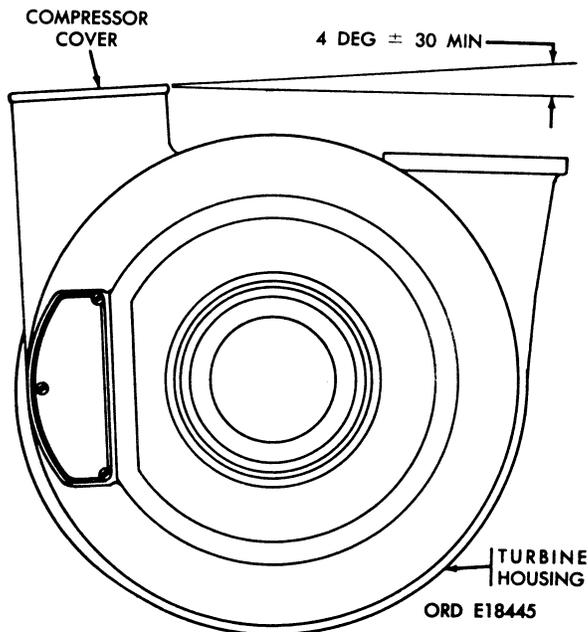

Figure 61. Correct position of compressor cover.
d. Make certain the alignment mark on cover aligns with mark on compressor housing. Refer to figure 61 for correct positioning of cover.